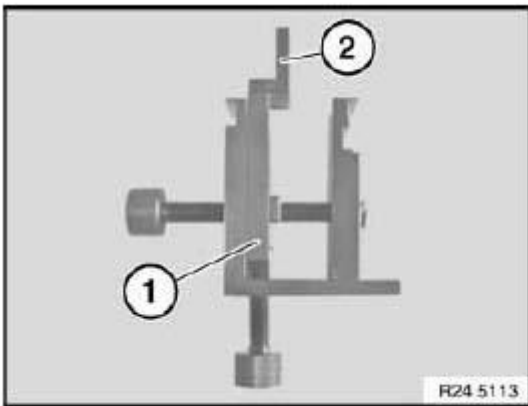

Fig. 17: Identifying Special Tools (24 4 161 And 24 4 165)
Prepare special tool (1) **24 4 161** with shaped piece (2) **24 4 165** . See **Fig. 17**.